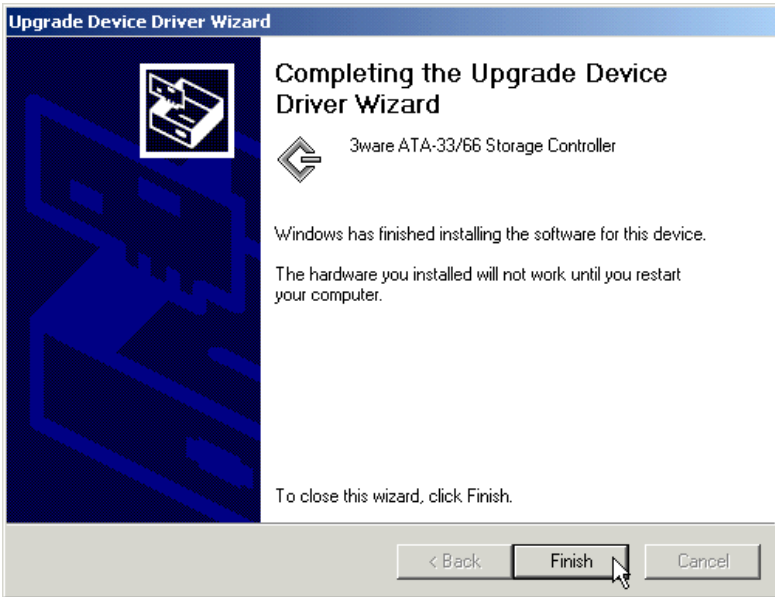

Figure 45. Final driver installation screen
- The final update driver screen should appear (Figure 45), followed by a progress bar which appears briefly, then by a **System Settings Change** dialog.